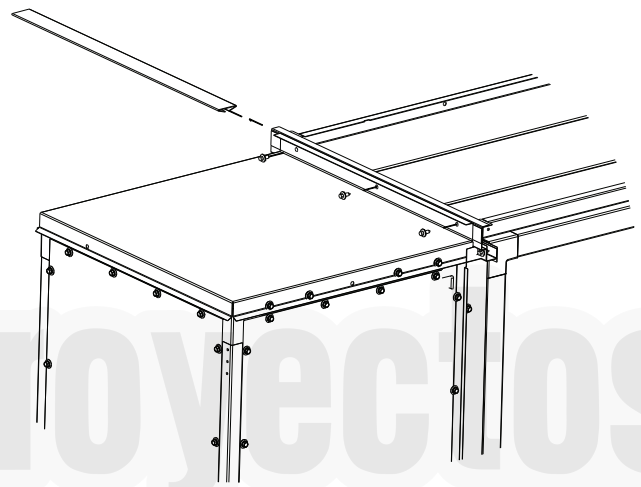

Fig. 60 — Screwing CCH Roof to Drain Channel
14. Screw cover top to drain channel. See Fig. 60.